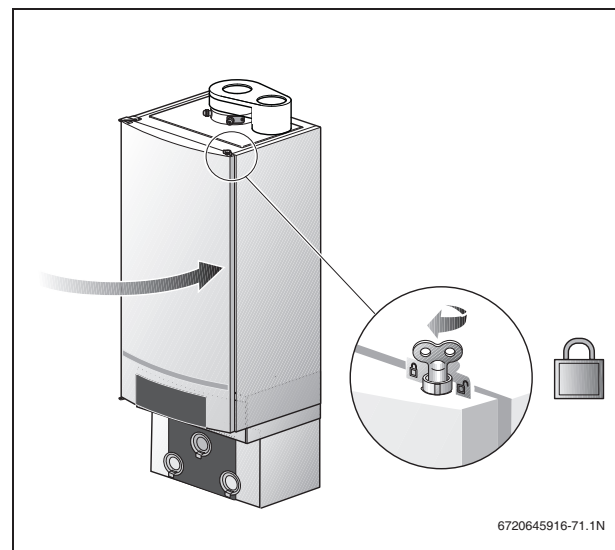

Fig. 70 Closing the boiler door
- Close the boiler door (fig. 70) and lock the fastener by turning the vent screw through ¼ rotation in a clockwise direction.